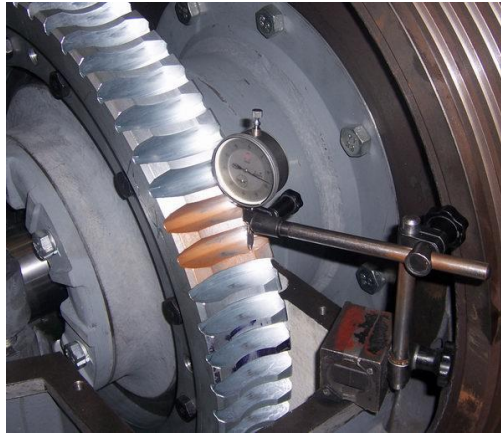

Figure 38 Dial Indicator position
7. Put the magnetic base of the dial indicator on the gear case. See Figure 38.